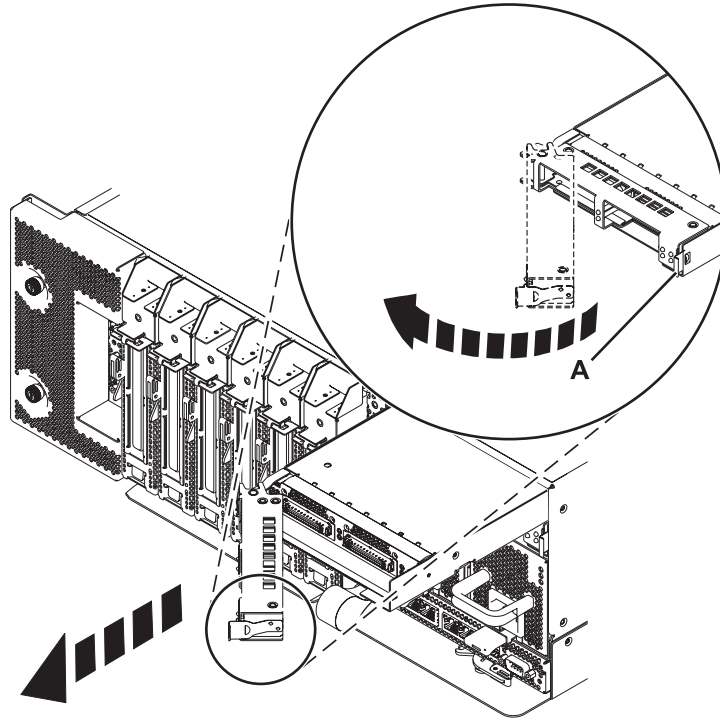

Figure 3. Removing the GX adapter from the system
7. Push the locking tab (A) to the left and rotate the GX card cover in the direction shown in Figure 3 on page 11.